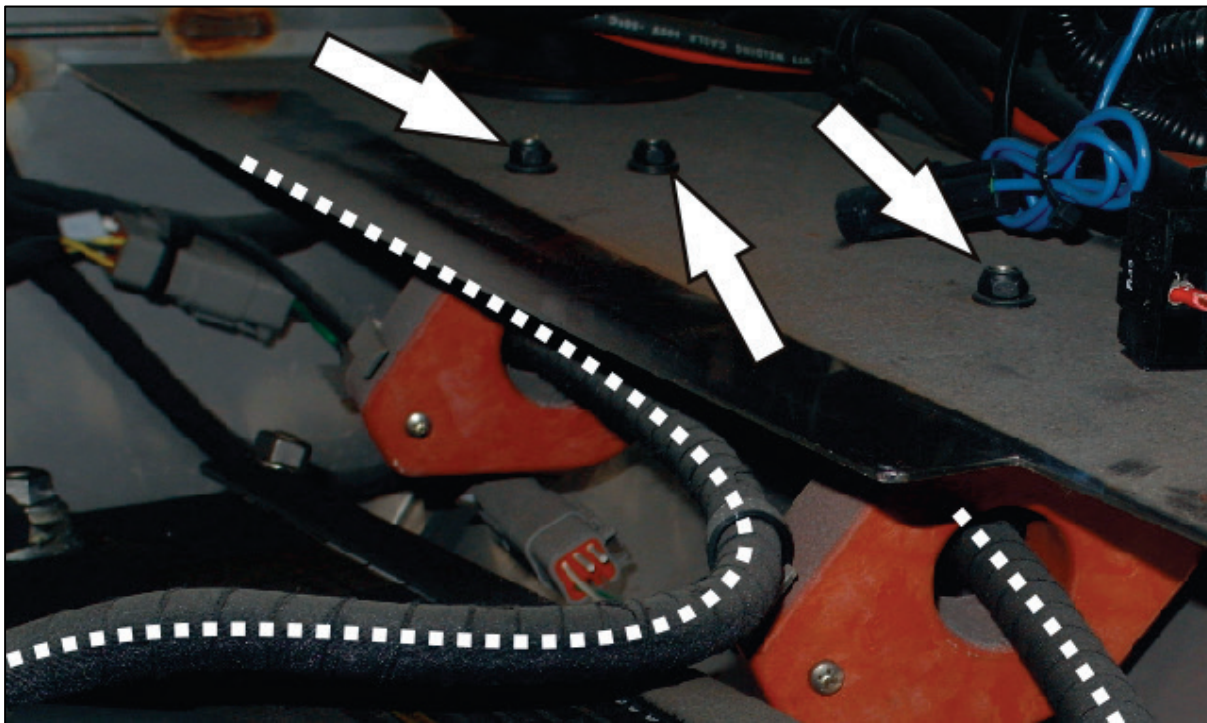

Figure 13 : H series sensor mounting screws
7. Remove sensors (Fig. 13 & 15)